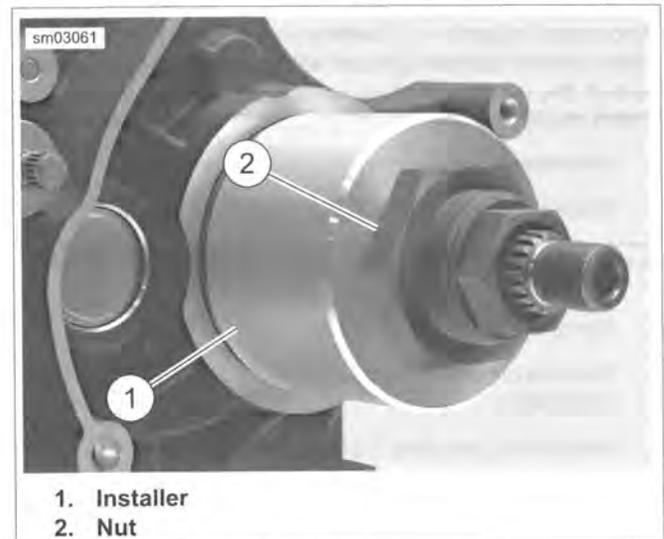
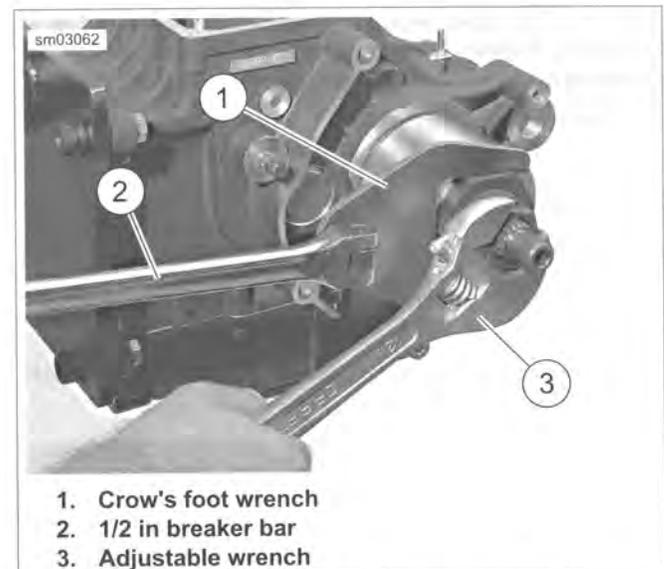

Figure 6-54. Installer and Nut
Figure 6-55. Press Seal Into Crankcase
5. See Figure 6-54. Slide INSTALLER (Part No. HD-47856-1) (1) over adapter until cupped end of installer is flat against seal.
6. Install NUT (Part No. HD-47856-6) (2) onto end of adapter against installer.
7. See Figure 6-55. Hold adapter from rotating and tighten large nut with CROW'S FOOT WRENCH (Part No. HD-47856-7) (1) attached to a 1/2 in breaker bar (2) until outer face of seal is flush with outer edge of transmission bore.